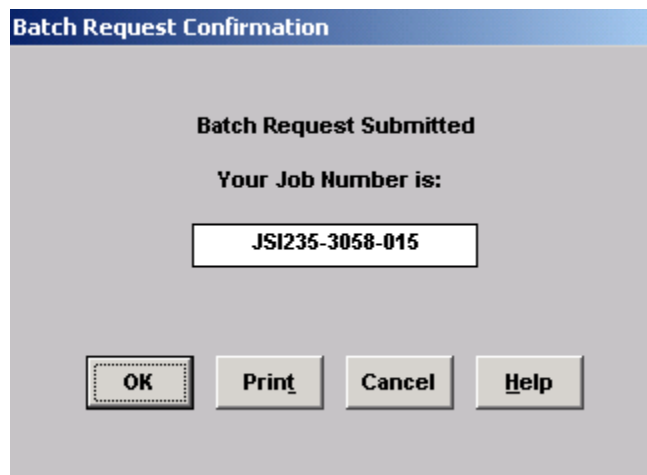

Figure O2
- d. Click on the APPLY button, a Batch job request number will appear on the screen. (Ex. JSI235-1199-001) Write or print it for reference. (FIGURE O2)